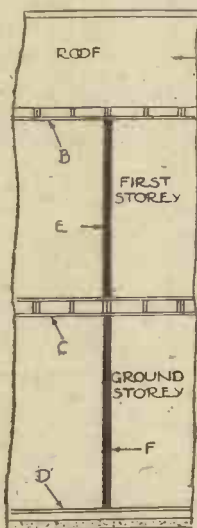
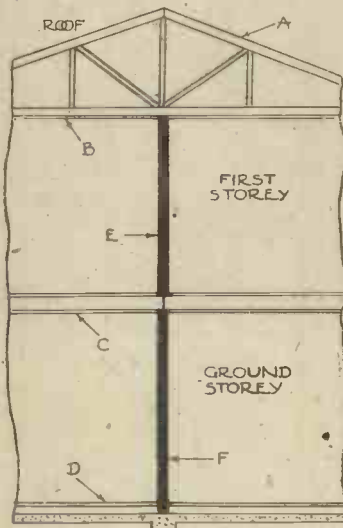

Fig. 76.
Fig. 78.
Internal partitions can be considered under two main headings, viz.: load-bearing and non-load-bearing. Of course, both actually have to bear some load, even if it's only the dead weight of the partition; but the technical interpretation of a load-bearing partition is well defined by the L.C.C. by-laws as "Load-bearing" "in relation to any part of a building (including the foundation) means any such part bearing a load other than that due to its own weight and to wind-pressure on its own surface." Figs. 76 to 79 are part sections through a house
showing by Figs. 76 and 77 typical examples of non-load-bearing partitions, and by Figs. 78 and 79 load-bearing partitions. Note how in the former examples the loads of floors and roof are kept off the partitions, and how in the other examples the partitions may be very heavily loaded.
possible loads, must be of stronger construction than those which have nothing but their own weight to support. By studying Figs. 78 and 79 it will be apparent that each partition in the first storey has to carry roof loads, and that in the ground storey not only has to withstand the loads of the superimposed partition but heavy loads from the first floor. Obviously the two partitions should be of different strength; the lower one must be much stronger than the upper one.
- Fig. 76.—NON-LOAD-BEARING PARTITIONS—SINGLE TYPE. A—Roof structure not deriving support from partition E. B—Ceiling structure not supported by partition E. C—Floor structure not supported by partition F. D—Ground floor. E—Partition in first storey. F—Partition in ground storey.
- Fig. 78.—LOAD-BEARING PARTITIONS—SINGLE TYPE. A—Part of roof structure bearing on partition E. B—Part of ceiling structure bearing on partition E. C—Part of floor structure transmitting heavy loads on partition F. D—Ground floor. E—Partition in first storey supporting roof and ceiling loads. F—Partition in ground storey supporting loads from partition E and first floor structure.